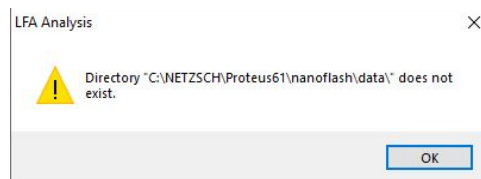

Figure 31. LFA Analysis pop-up window.
- A pop-up window will appear twice stating the directory does not exist. Click OK each time (as shown in Figure 31).